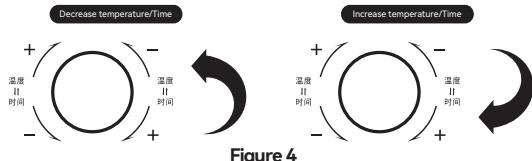

Figure 4
- ① Rotate the knob to set the temperature between 500°C (min) and 800°C (max).
- ② Rotate counterclockwise to decrease temperature (-) and clockwise to increase (+) (see Figure 4).
- ① Click the knob once. A short beep will sound, and the time display will flash, entering timer mode.
- ② Rotate the knob to set the countdown (30 seconds to 10 minutes). Counter-clockwise reduces time; clockwise increases it (see Figure 4).
- ③ Click the knob again to start the countdown. During countdown, click to reset.
- ④ After countdown, the buzzer will beep 5 times, but heating continues.